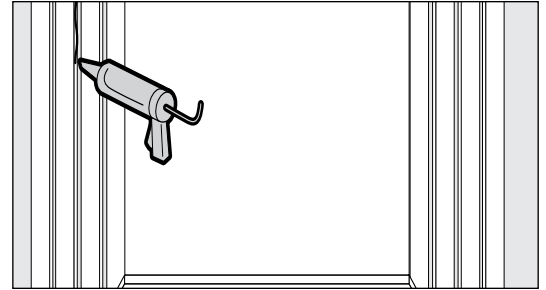

FIGURE 8. Apply adhesive. **composite material must be secured to studs**
- Apply adhesive to studs for faucet side panel and place side panel. (Fig. 8)